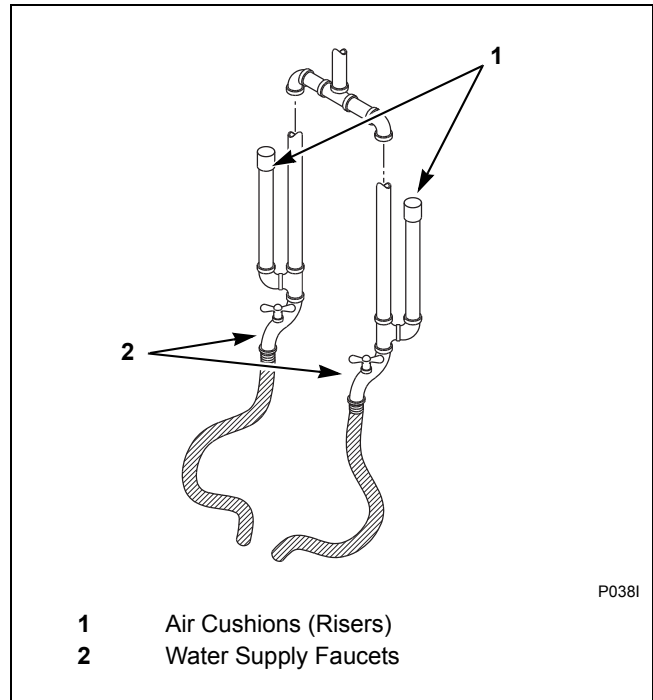

Figure 14
- Suitable air cushions (risers) should be installed in supply lines to prevent “hammering.” Refer to *Figure 14*.